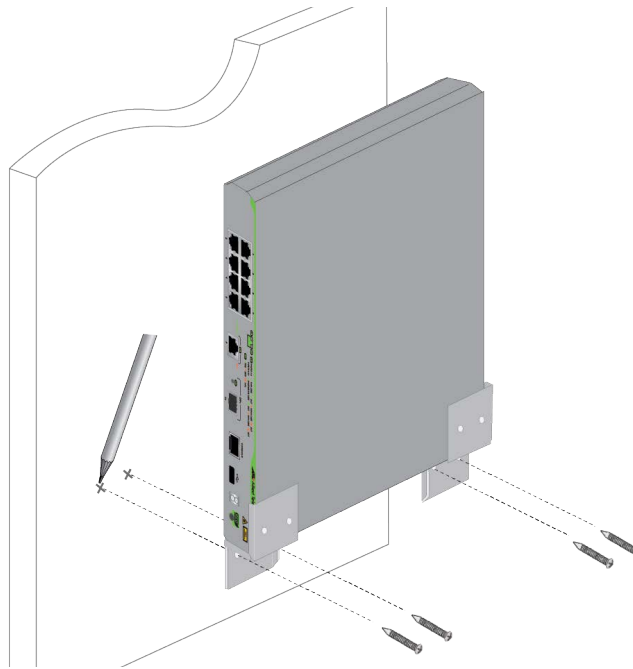

Figure 5. Marking the Screw Hole Locations
4. Have another person hold the switch with the brackets at the location where the switch is to be installed, while you use a pencil to mark the wall at the locations of the four holes in the brackets. See Figure 5.